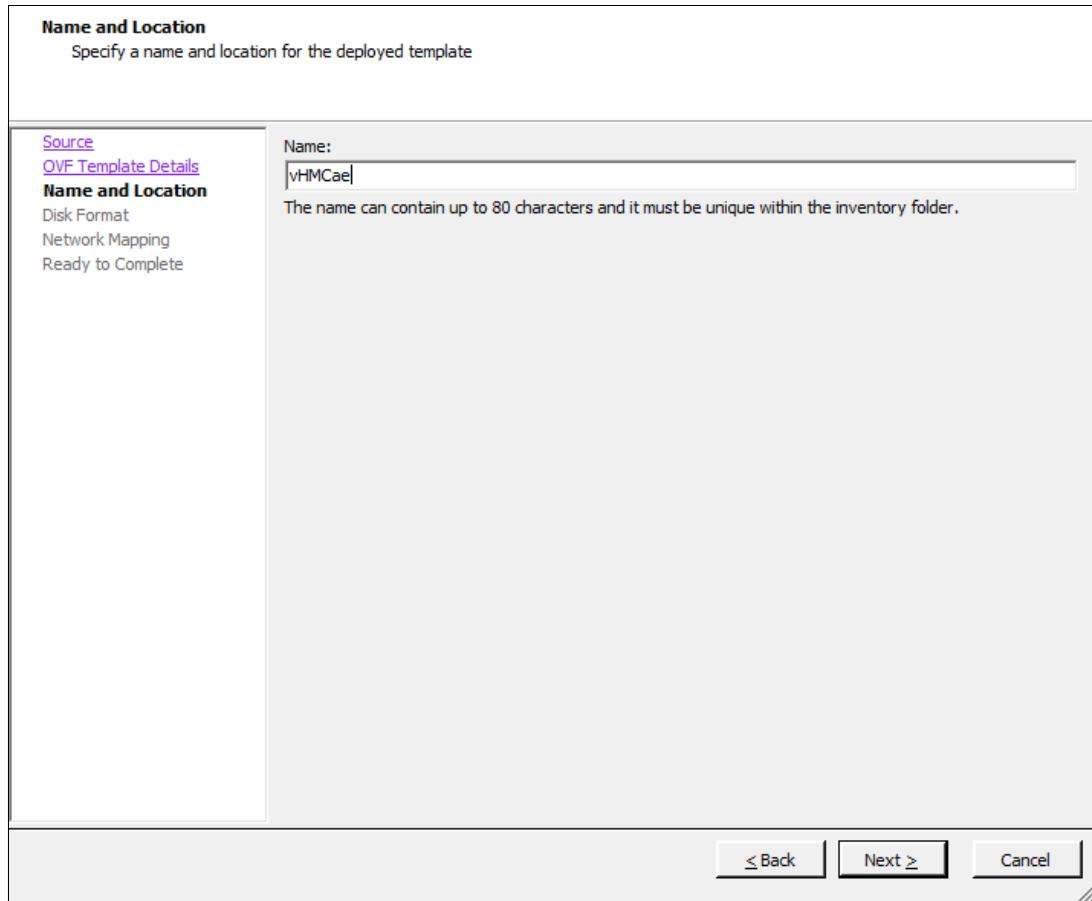

Figure 3-55 Choose a VM name
9. In the OVF Name and Location panel, enter a VM name, as shown in Figure 3-55, and click **Next**.